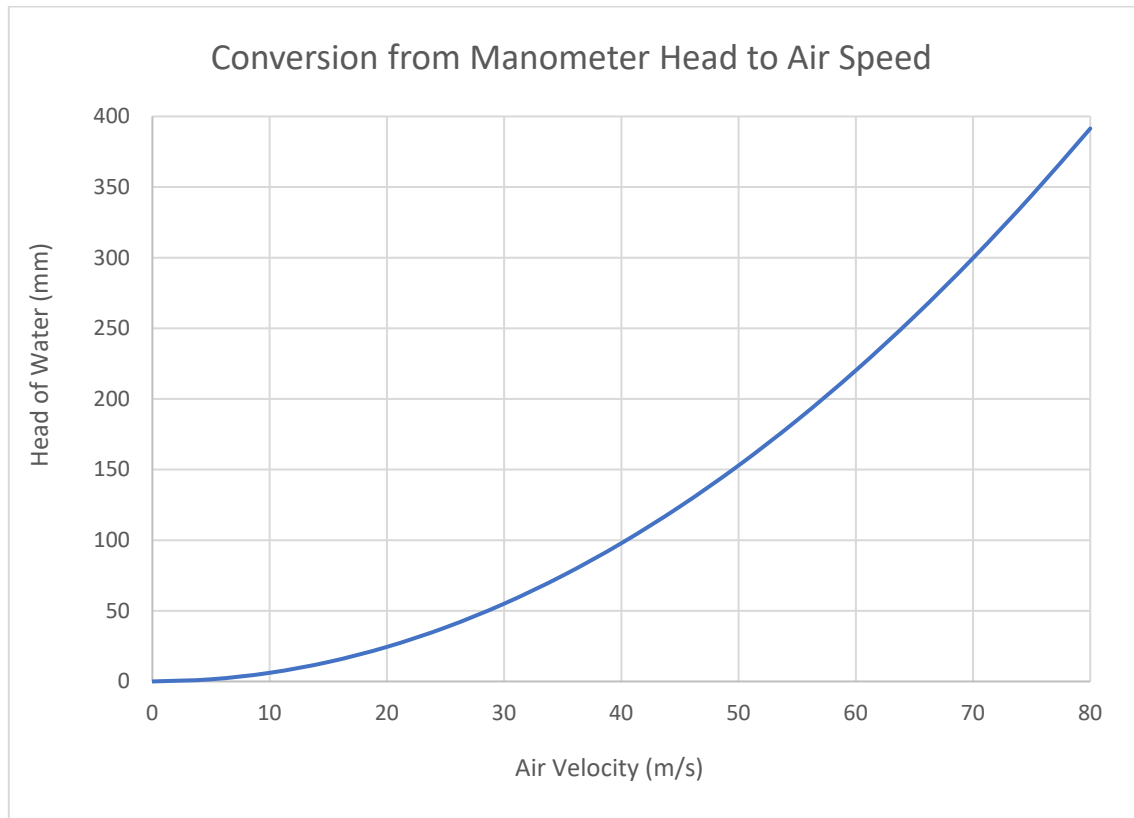

Figure 4b
- iii. Figure 4b is to be used to convert differential pressure readings from a manometer in units of 'mm of water' to an air speed. Choose a point on the plot and confirm, or otherwise, that it is correct and can be used to convert from mm of water to air speed in metres per second. Comment on the accuracy of such a chart. (6 marks)